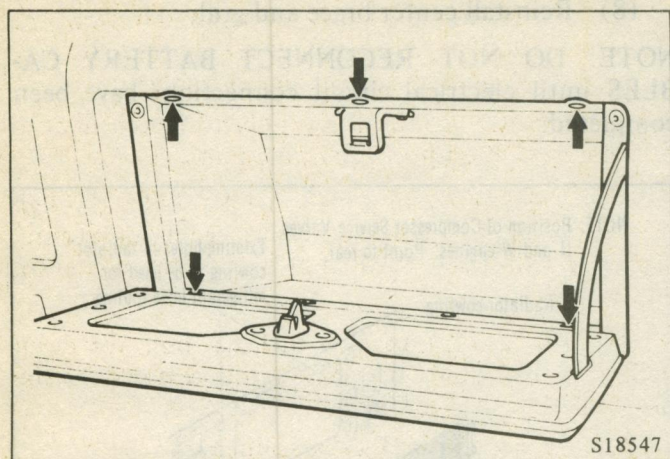

Fig. 19 Removal of Glove Box and Right-hand Louver Assembly
(1) Remove glove box and right hand louver assembly. (Fig. 19)
(2) Remove package tray and brace attached to R.H. side of console and discard.
(3) Remove the plastic fresh air duct from R.H. side. Retain the metal retainer and discard the duct.
(4) Remove and lay aside the R.H. defrost duct from heater to defrost outlet.
(5) Remove center console assembly — lay aside.
(6) Remove ash tray and its mounting bracket.
(7) Remove center air plenum (discard).